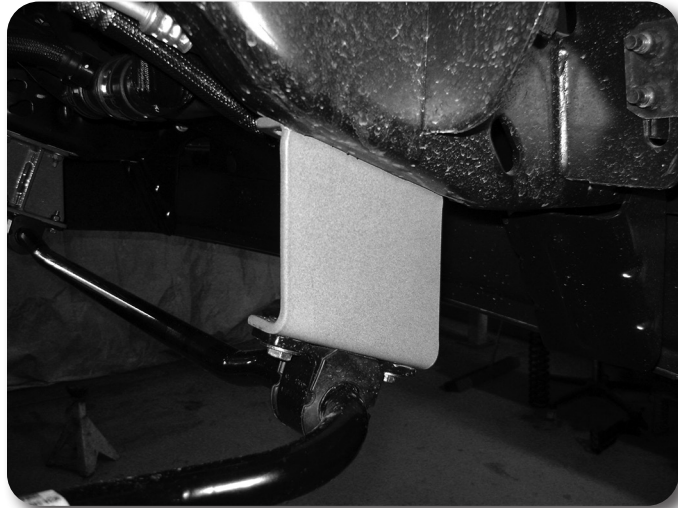

Figure 19
43. Locate the new sway bar drop brackets. Install the brackets on the frame with the original sway bar mount hardware. When installed the brackets should offset toward the front of the vehicle and the open face point to the inside. **Figure 19** Leave hardware loose.